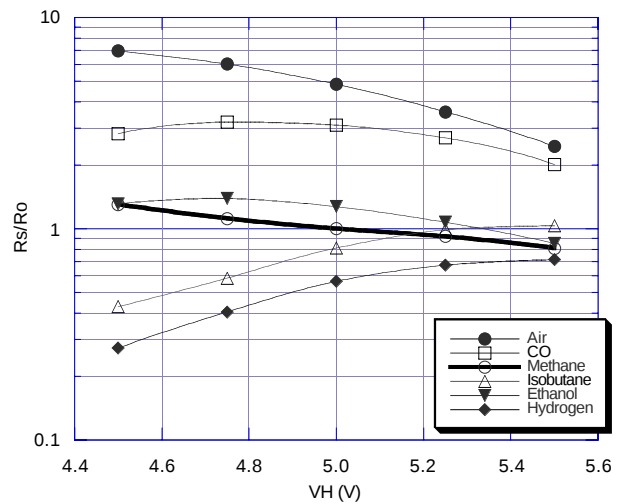

Fig. 8 - Heater voltage dependency
Figure 8 shows the change in the sensor resistance ratio according to variations in the heater voltage (VH).